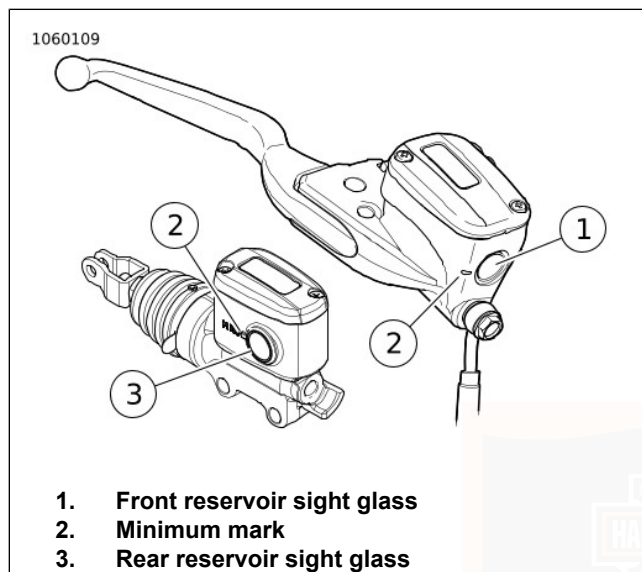

Figure 65. Brake Fluid Reservoirs
2. **Front:** See Figure 65. Check level in front reservoir sight glass. Level must be above minimum mark on side of reservoir.
3. **Rear:** See Figure 65. Check level on side of rear brake reservoir. Level must be above minimum mark on side of reservoir.